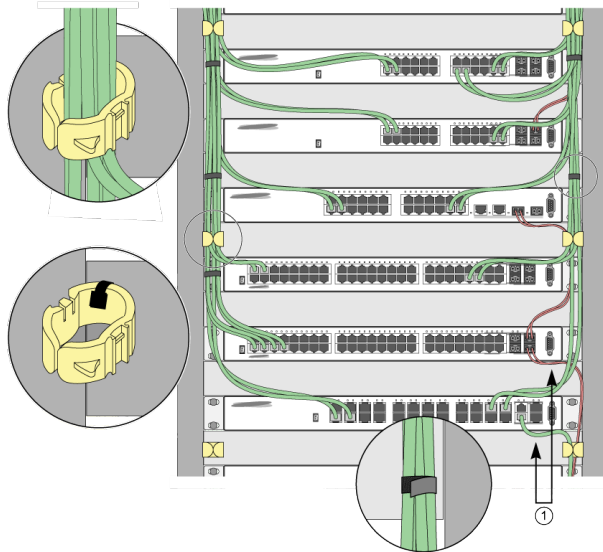

Figure 17: Properly Installed and Bundled Cable
- Provide enough slack, approximately 5 to 7.5 cm (2 to 3 in), to provide proper strain relief as shown in Figure 17 on page 43.
- When installing a patch panel using twisted pair wiring, untwist no more than 2.5 cm (1 in) of the cable to avoid radio frequency (RF) interference.